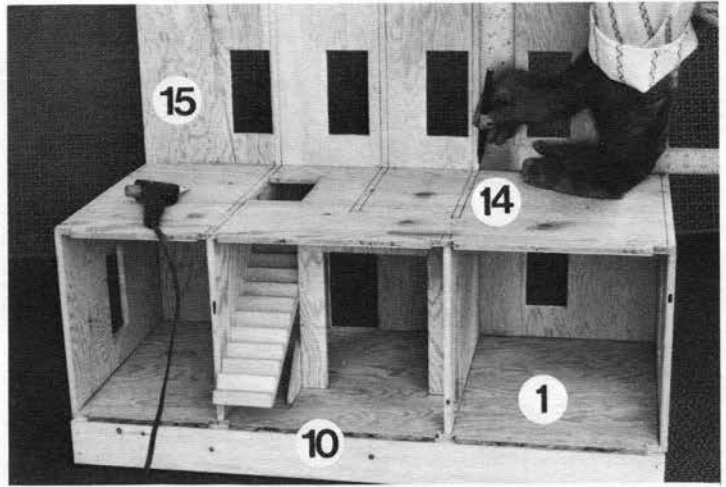

Fig. 8
STEP 7: Mark all second floor wall positions (FIGURE 8).